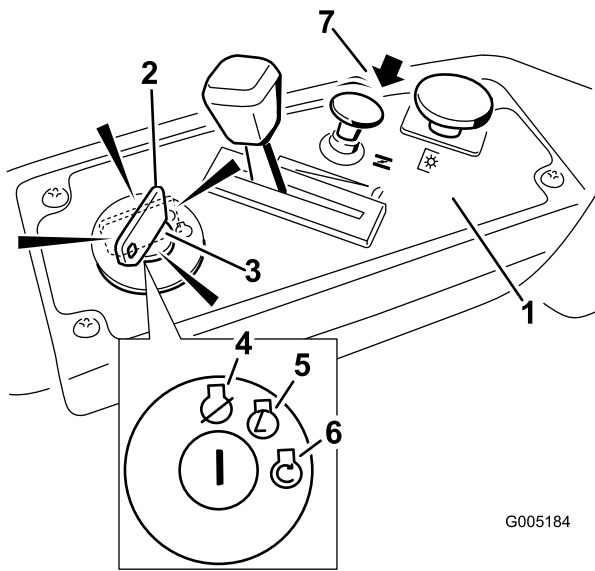

Figure 10
3. Pull up on the Choke control before starting a cold engine (Figure 10).
4. Turn the ignition key to Start to energize the starter. When the engine starts, release the key (Figure 10).
- After the engine starts, push down on the Choke control (Figure 10). If the engine stalls or hesitates, pull up on the Choke control and let the engine run for a few seconds. Then push down on the Choke control and move the throttle lever to the desired setting. Repeat this as required.
- Move the throttle lever to between Fast and half throttle (Figure 10).